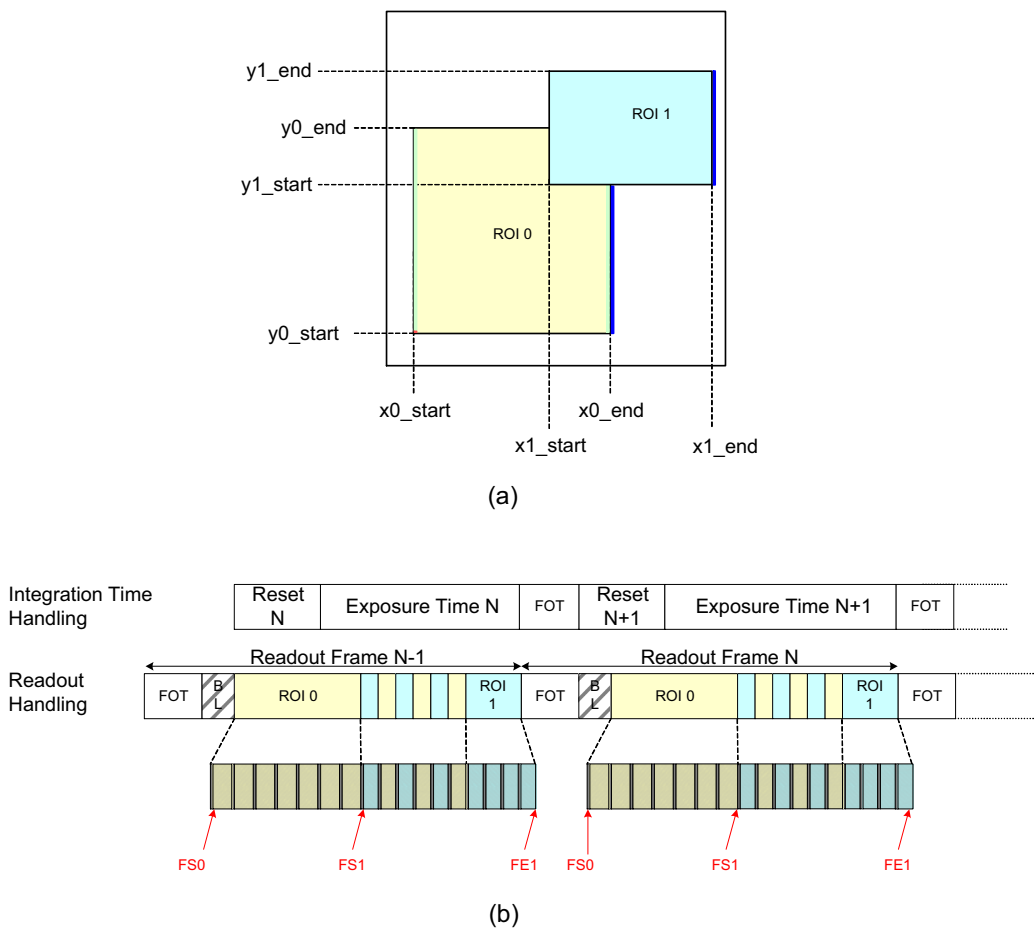

Figure 34. P1-SN/SE/FN, P3-SN/SE/FN: Frame Sync Codes
The frame format in 10-bit mode is explained by example of the readout of two (overlapping) windows as shown in Figure 34(a).
Figure 34 indicates that, after the FOT is completed, the sensor reads out a number of black lines for black calibration purposes. After these black lines, the windows are processed. First a number of lines which only includes information of ‘ROI 0’ are sent out, starting at position y0\_start. When the line at position y1\_start is reached, a number of lines containing data of ‘ROI 0’ and ‘ROI 1’ are sent out, until the line position of y0\_end is reached. From there on, only data of ‘ROI 1’ appears on the data output channels until line position y1\_end is reached.
**NOTE:** In Figure 34, only Frame Start and Frame End Sync words are indicated in (b). CRC codes are also omitted from the figure.